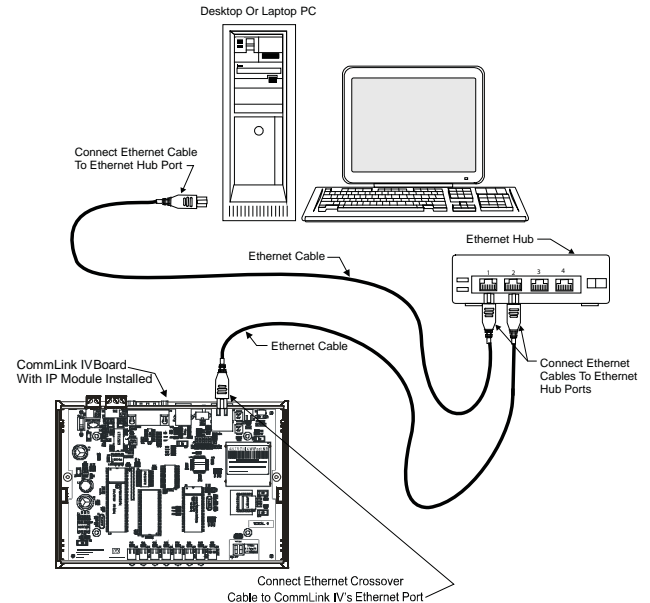

Figure 8: Connecting with Ethernet Cable and Hub (CommLink IV shown)
- 2.) You can connect both your PC and the CommLink to an Ethernet Hub with standard CAT5 cables (by others). See *Figure 8* for details.